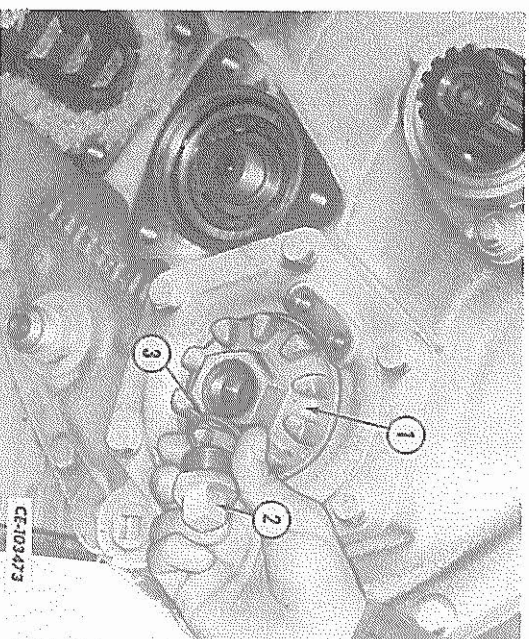

FIG. 24 — Removing the Bearing Retainer Plug
15. Re-install the bearing retainer (1, Fig. 24). It will be used later in disassembly to facilitate pinion shaft removal. Remove the plug (2) with gasket (3) from the retainer.